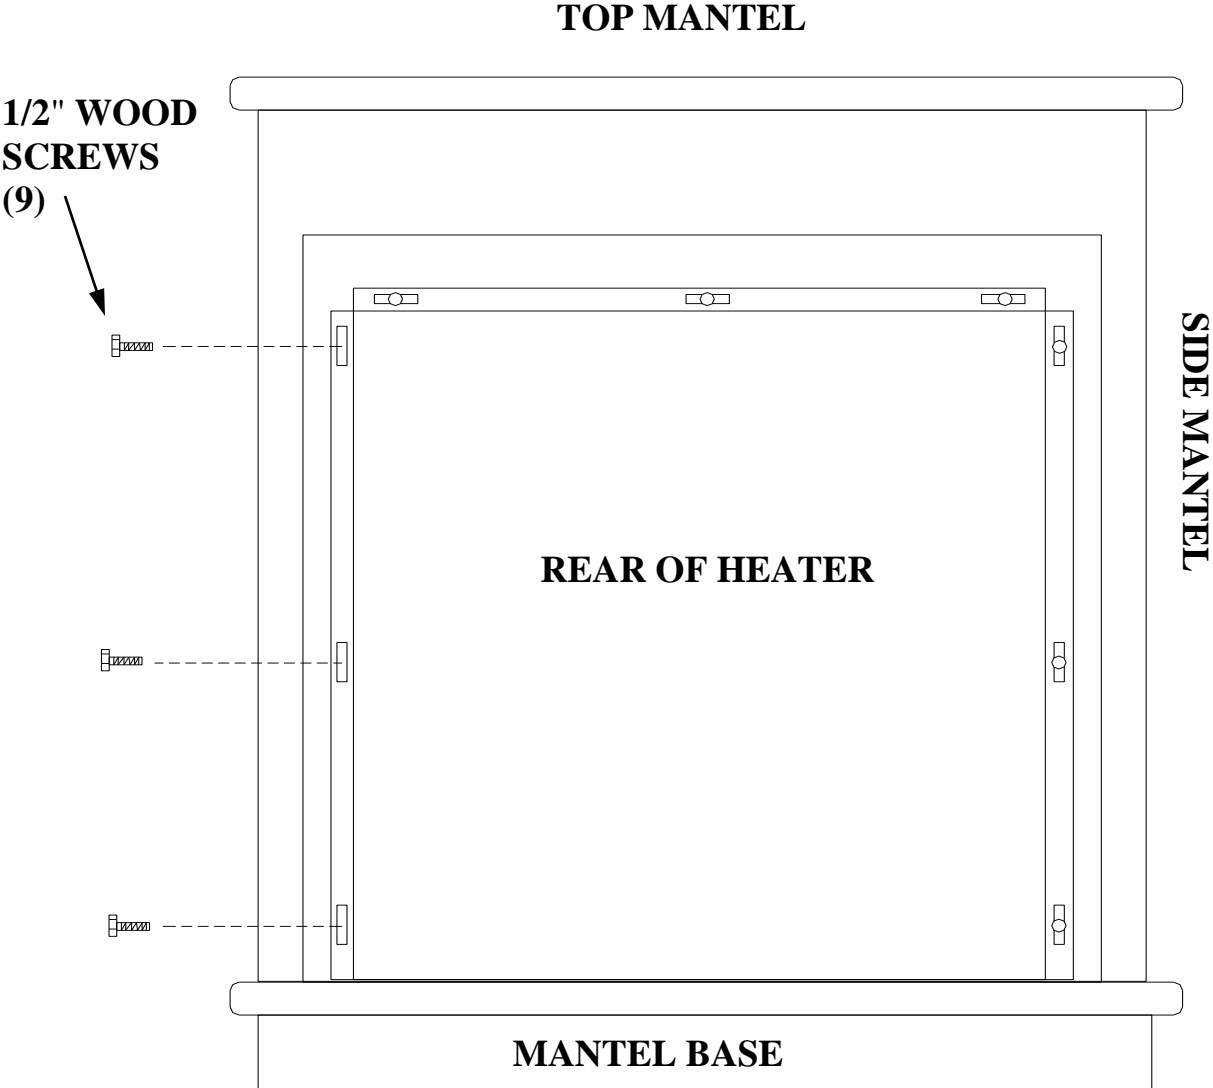

FIGURE 6
(1) When choosing the right location for your heater and mantel keep the following in mind:
(2) Screen(s) can not be removed or altered (Position screen(s) in the closed position before leaving heater unattended).
(3) Follow instructions for assembly of (Optional) Wooden Mantel. See instructions supplied with mantel.
(4) After mantel has been assembled, slide the heater from the rear into the opening of the mantel.
(5) Center the heater in the opening of the mantel. See Figure 6.
(6) Fasten mantel to hearth by using 1/2" wood screws.
(7) Insert the nine (9) wood screws provided with mantel through slots on nailing flange and secure in place. See Figure 6.
(8) Position mantel and fireplace into desired location.
(9) Now you are ready to position the log set.
(10) To light the heater, see “Lighting Instructions” pages 21 through 28. Make sure you have the right gas valve for Natural or LP gas.